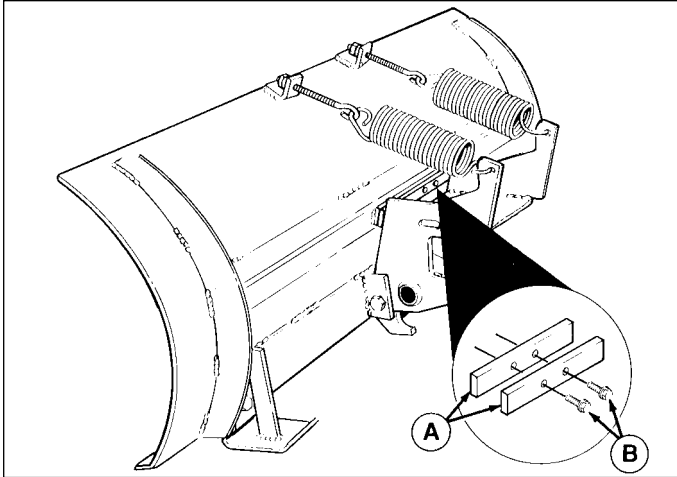

Figure 9. Bar Stop
2. Install the bar stops (A, Figure 9) using the two 5/16-18 x 1 taptite screws (B).